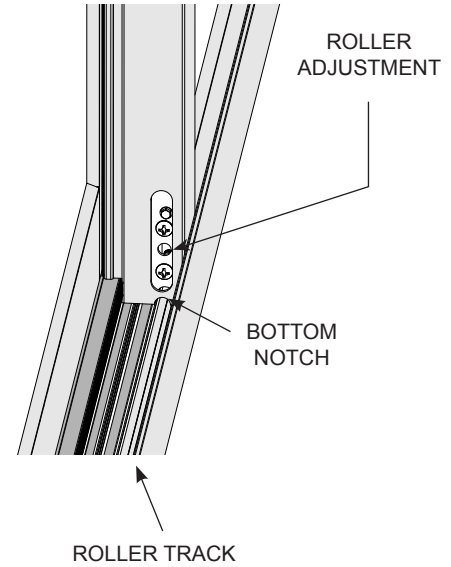

FIG. 15
3. Lift the panel and swing the bottom until it rests on the roller track while centering the bottom notch. (FIG. 15)